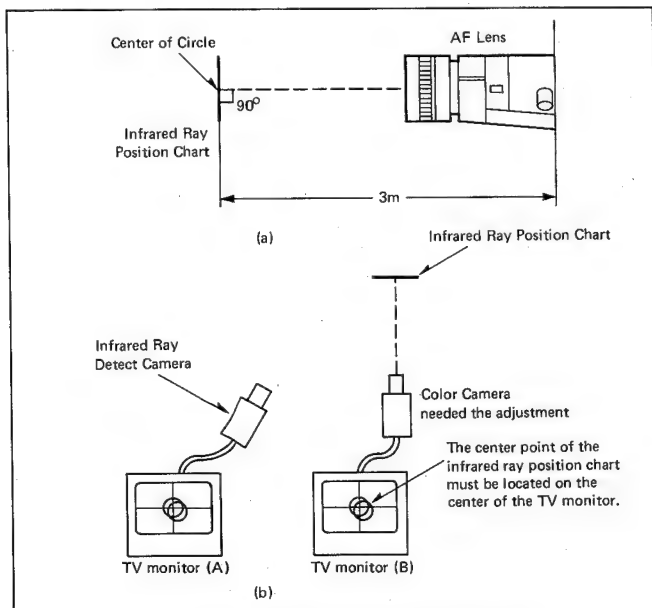

Fig. 1 Color Camera Setting Condition
2. Aim the camera at the infrared ray position chart and observe the picture on the TV monitor (B). The center point of the infrared ray position chart must be located on the center of the TV monitor screen.
3. Then, aim the infrared rays detect camera at the infrared ray position chart and observe the picture on the TV monitor (A).
4. Loosen a screw (A) and adjust the LED horizontal position and LED vertical position so that the infrared ray is hit the circle ($\phi 100$) as shown in Fig. 1-(b), TV monitor (A). (Irradiated position is less than the circle $\phi 100$).
2. Set the camera and the infrared ray position chart as shown in Fig. 1.